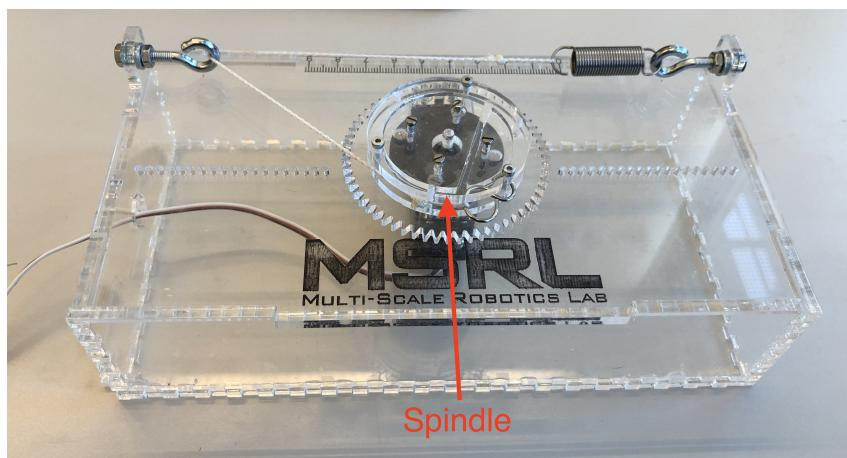

Figure 4.7: Example for the Torque Analysis starting setup.
2. Build the same experiment as the one displayed on the sketch and on Figure 4.7 using the supplied materials. Securely attach the spring to one of the hooks and screw the spindle on the large central gear on top of the servo with 4 small slotted screws (if it is not there already). Pass the string through the second hook which will serve as a pulley and attach the hook on the string to one of the 3 screws on the side of the spindle. Use the circuit which you built in the previous part to deflect the spring as far as possible. Measure and write down the deflection and check if your calculations were correct. There will be deviations from the theoretical value. Calculate the efficiency of the system and name 1 cause for the losses/deviations. (**PostLab Q3**)